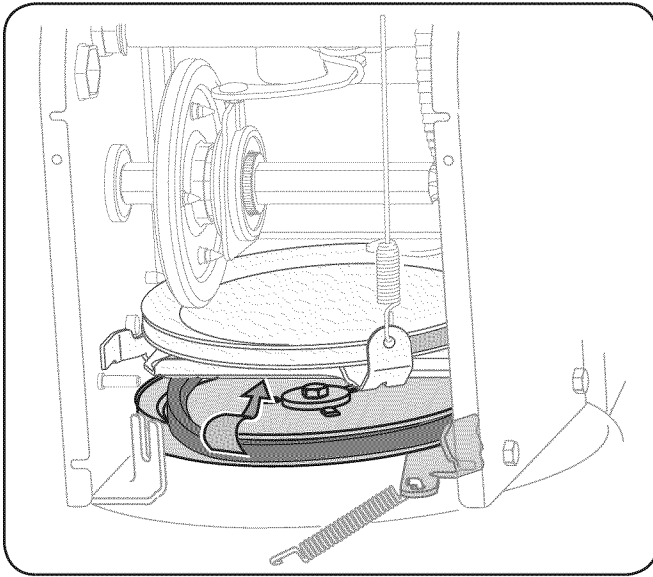

Fig. 7-5
- Remove the belt from around the auger pulley, and slip the belt between the support bracket and the auger pulley. See Fig. 7-5.